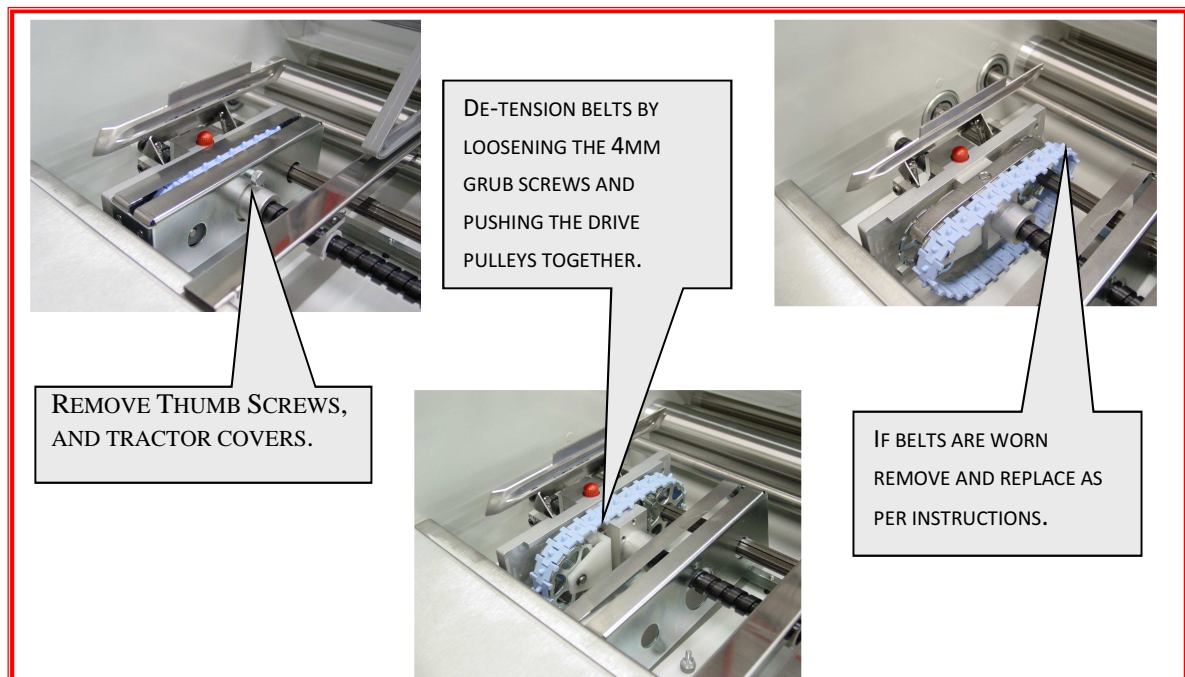

Fig 3.1 Renewal of Tractor Belts
- Renew the tractor belts, (see Fig 3.1).
Tractor Belts (Fig 3.1)